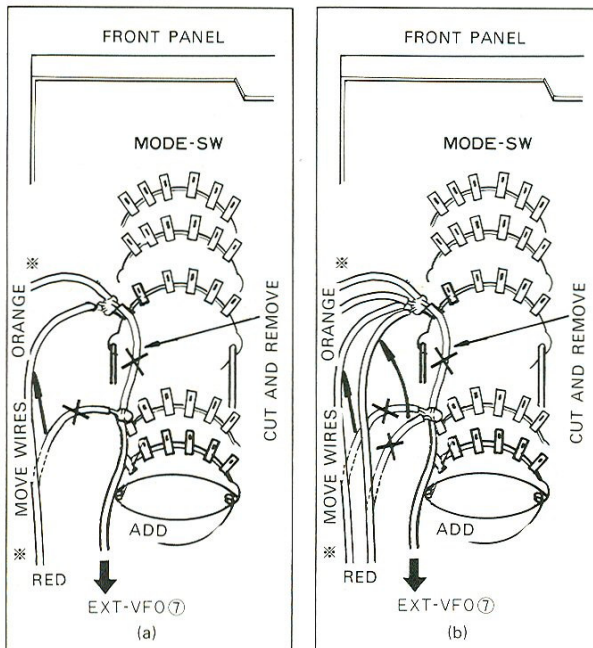

Fig. 4.21 MODE Switch Rewiring
4. Rewire the MODE switch (Fig. 4-21)